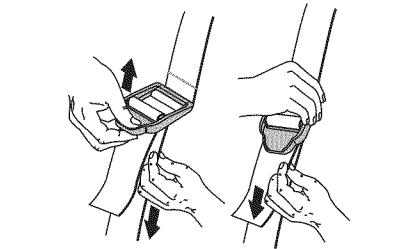

Fig. 12
4. Adjust length to fit the operator's size. Pull tab to lengthen, pull strap to shorten (Fig 12).